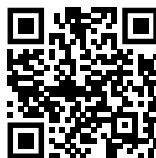

Fig. 128
- Open Liebherr SmartMonitoring Dashboard. (see Fig. 128)